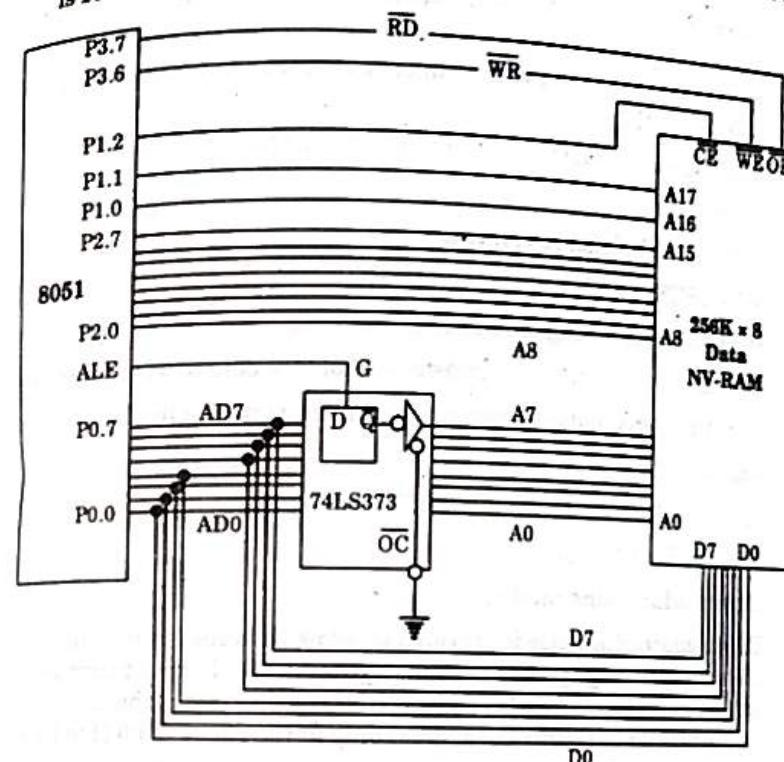

Fig. 4.16.1. 8051 accessing 256K x 8 external NV-RAM.
2. To solve the problem where we need a large amount of memory to store data (for example, 256 Kbytes), we can connect A0-A15 of 8051 directly to the external memory's A0-A15 pins, and use some of the P1 pins to access the 64 Kbyte blocks inside the single 256 K x 8 memory chip, as shown in Fig. 4.16.1.